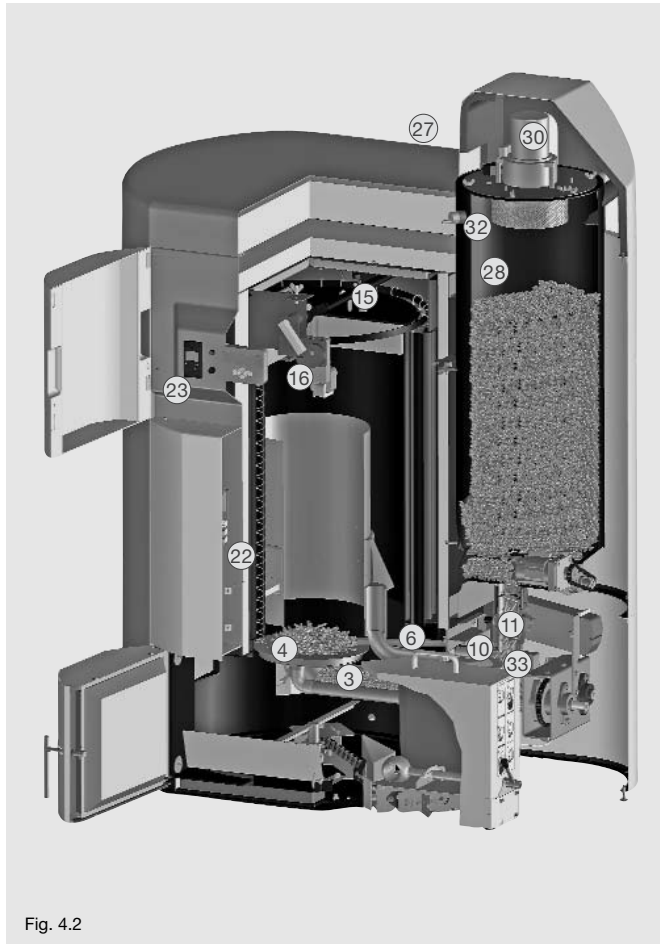

Fig. 4.2
The fire protection valve (11) is closed again and the ignition process is monitored electronically. After a few minutes, a pilot flame ignites on the fire plate (4), the flue gas temperature rises, signalling the boiler control unit that ignition has taken place (Fig. 4.2).
The boiler then switches its operation mode to regulating mode (Fig. 4.2).
The boiler target temperature can be set manually in "manual operation", or in "automatic operation" the target temperature is calculated by the heating controller and transmitted to the firing control box (22) (Fig. 4.2).
The feed motor (33) is switched off and the fire protection valve (11) is closed, thereby ending the fuel supply. The burner fan (10) and the flue gas fan (27) continue running for a few minutes until the remaining fuel on the fire plate (4) has been burned, thus establishing a safe operating status (Fig. 4.2).
The suction turbine (30) and the wood pellets removal system are switched off. In the event of fault (e.g. insufficient fuel), a fault message is displayed on the operating module after further filling attempts (Fig. 4.2).
The cleaning motor ⑮ switches on and the cleaning mechanism ⑮ runs for a few minutes (Fig. 4.2).